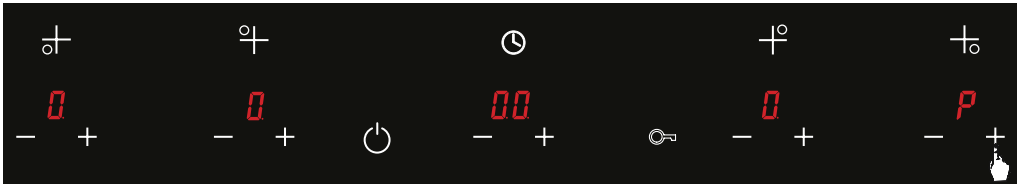

Figure 66
2. Immediately after setting the temperature level as **9**, press the **+** key again, the **P** symbol shall be illuminated on the display. (See Fig. 66)